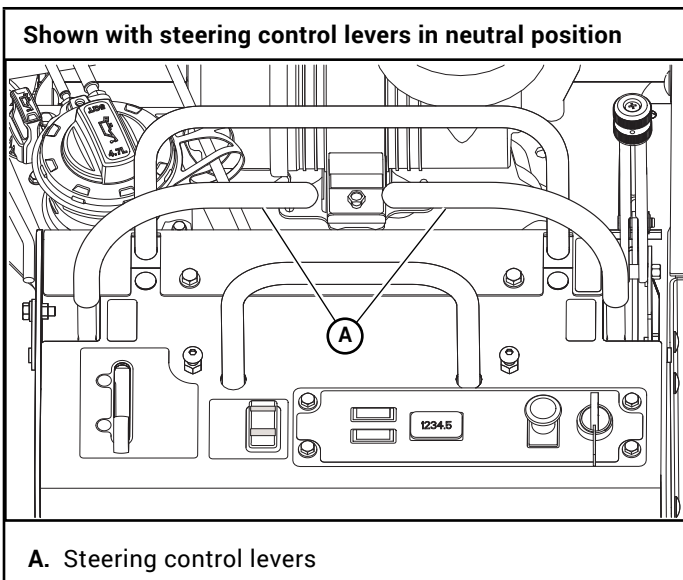

Figure 3-4
- A. **Steering control levers (Figure 3-4)** – these levers control the mower’s speed, direction, and stopping.